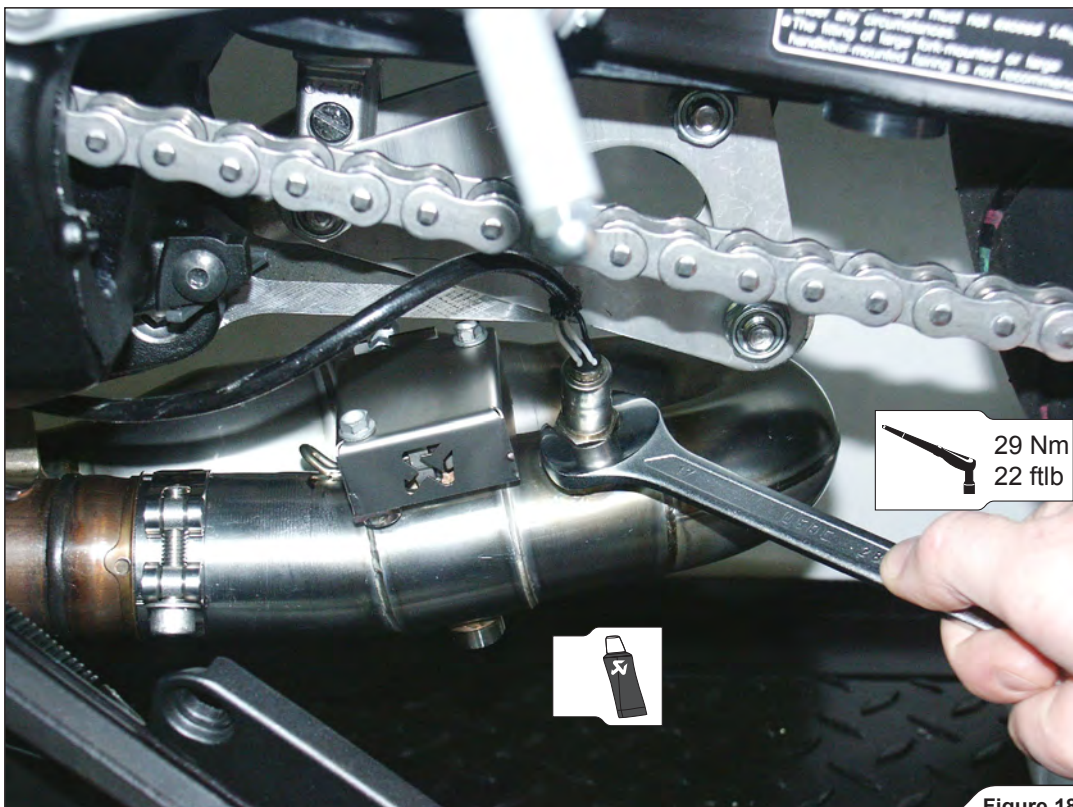

Figure 18
- Tighten the lambda sensor; make sure not to damage the sensor's electrical lead (**Figure 18**).